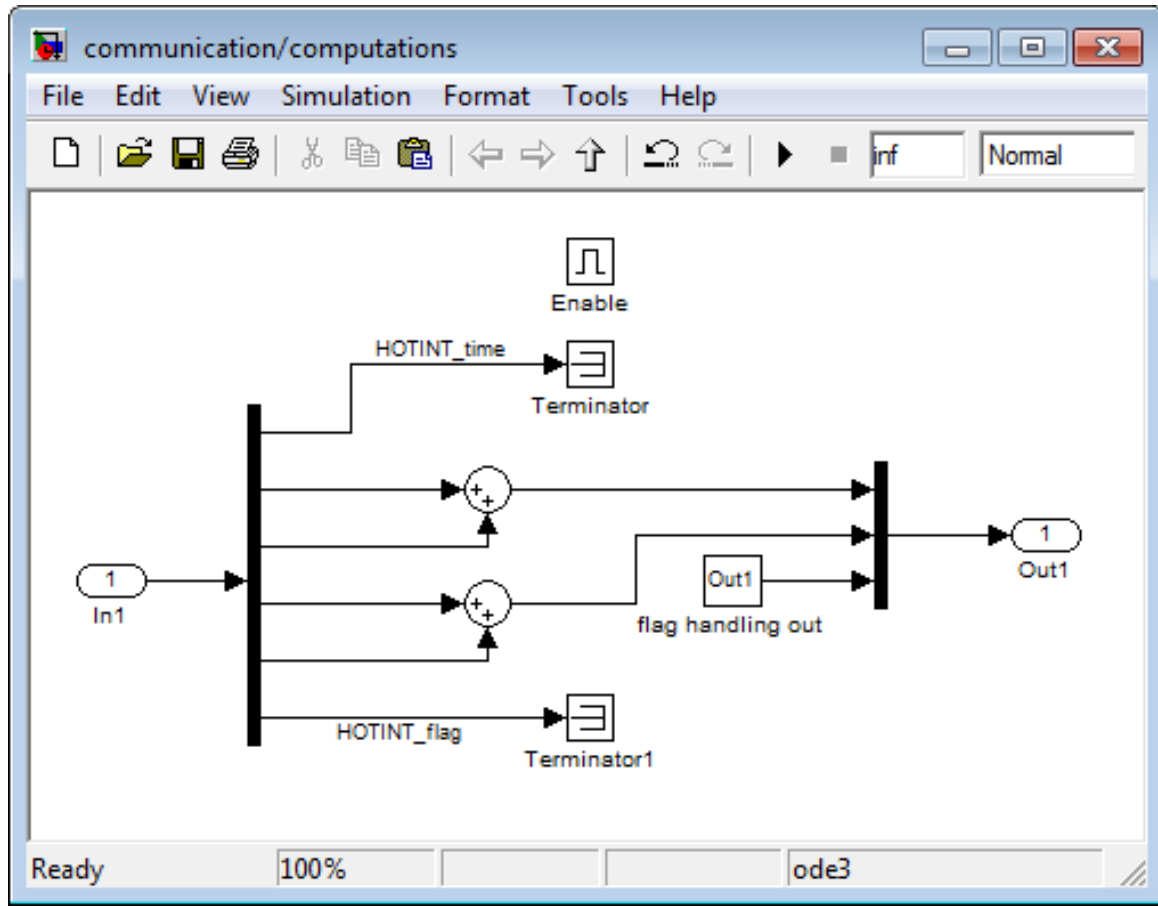

Figure 3.51: Subsystem computations
- (4) Set the “Sample Time” of every block (TCP/IP Receive, Constants,...) and choose fixed step size in the “Solver Options”.
- (5) Open the subsystem “computations”, see figure 3.51. This subsystem contains all computations $\mathbf{y} = \mathbf{f}(\mathbf{u})$ with input \mathbf{u} and output \mathbf{y} .